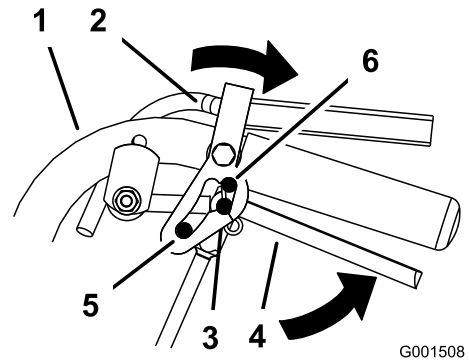

Figure 8
2. Place your thumbs on the upper part of the locks and move them rearward into the NEUTRAL position (Figure 8).